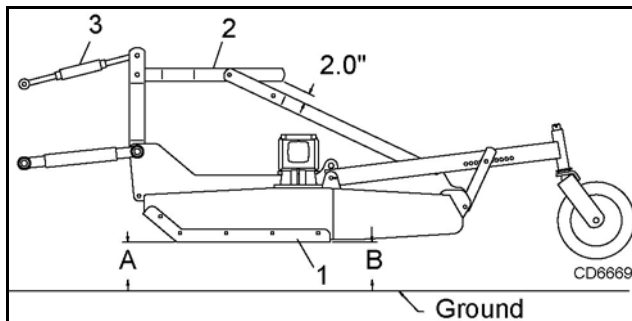

Figure 11. Cutting Height Adjustment
Using any of the optional cutting height mechanisms, raise or lower the tailwheel and set position A to 2-1/4 inches. Loosen the jam nut on the attitude rod that runs from the tongue to the tailwheel. Adjust rod in or out until position B is approximately 1/4 to 1/2 inches more than position A. Refer to Figure 11.
Adjust tractor 3-point hitch to obtain a distance of 2-1/4 inches at position A. See Figure 11.
Adjust top link to provide 2 inches of clearance between the break link (2) and the rear lift links. See Figure 11. This clearance will allow the cutter to float over uneven terrain.